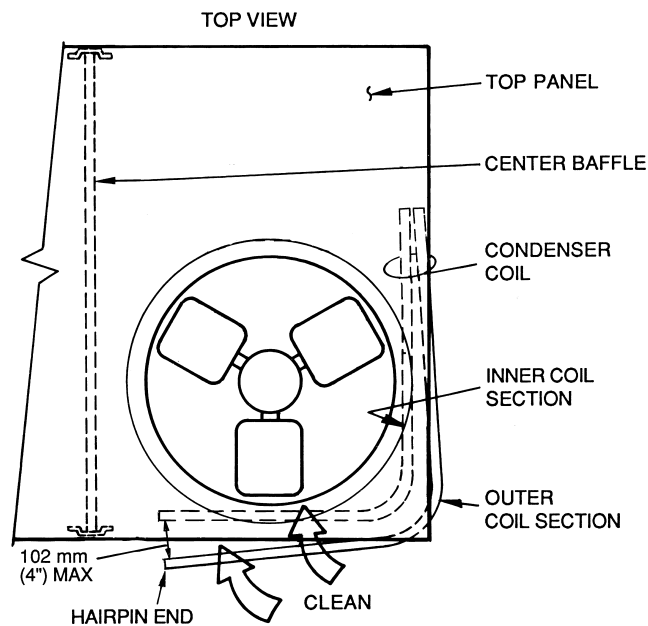

Fig. 41 — Separating Coil Sections
5. Remove fastener holding coil sections together at return end of condenser coil. Carefully separate the outer coil section 3 to 4 in. from the inner coil section. See Fig. 41.